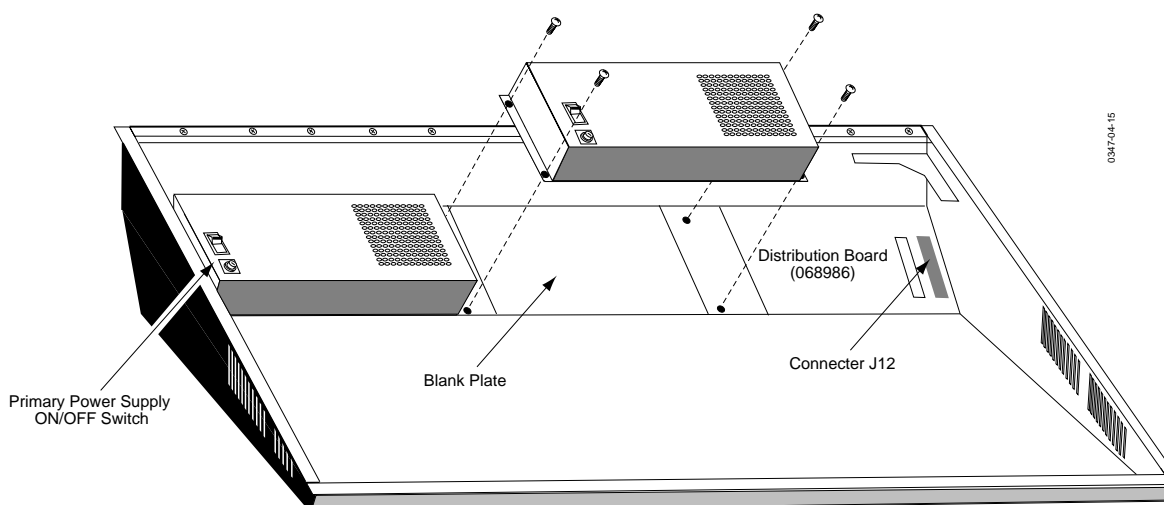

Figure 2-11. Model 4000-3 Redundant Control Panel Power Supply Installation
2. Remove the blank plate in the redundant power supply positions illustrated in Figure 2-11.